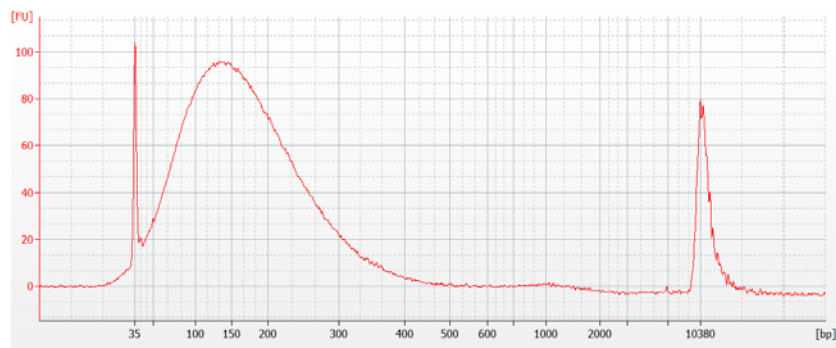

Figure 6 Analysis of sheared DNA using a High Sensitivity DNA Bioanalyzer assay.
- 7 Check that the electropherogram shows a DNA fragment size peak between 120–150 bp. A sample electropherogram is shown in Figure 6.